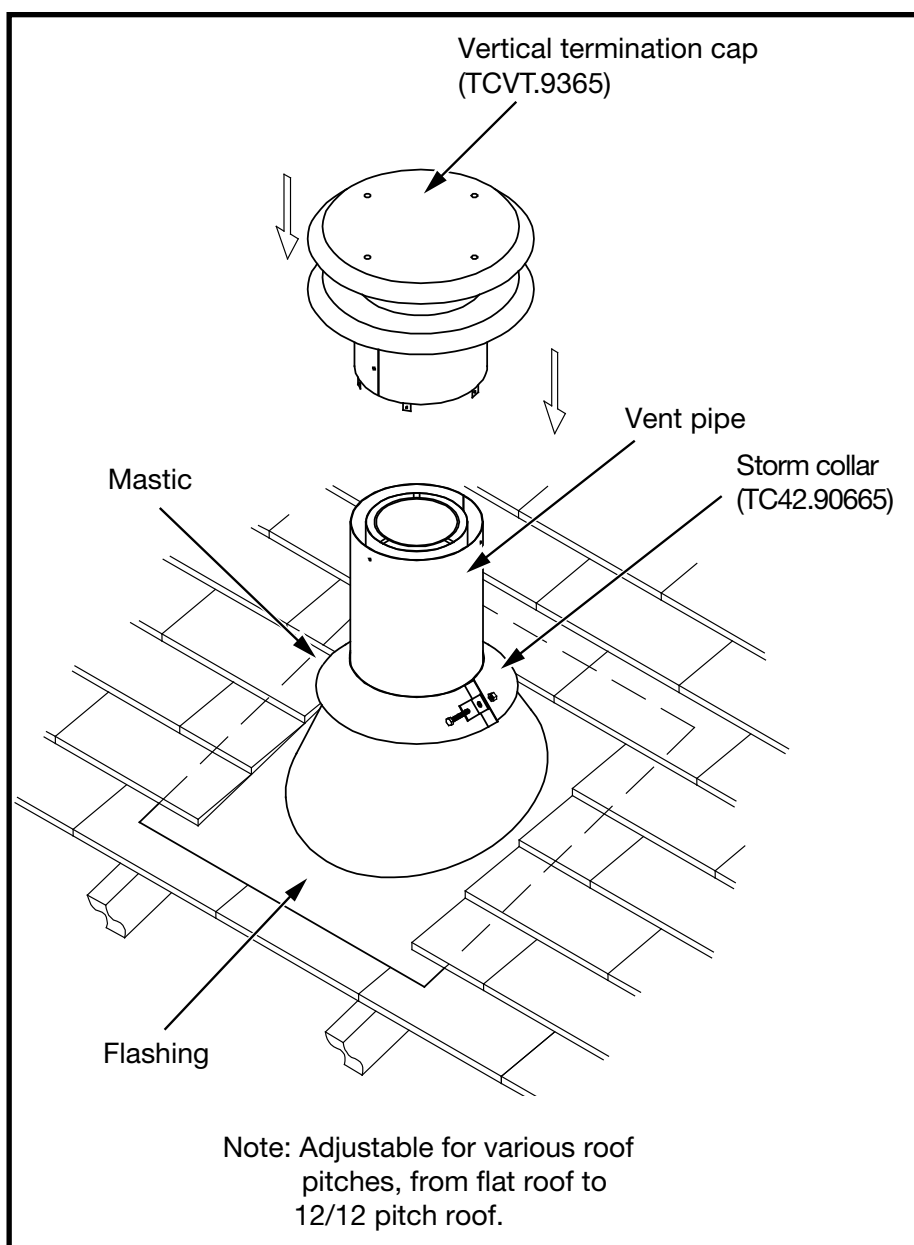

Figure 35: Roof vent terminal.
1. Place the roof flashing over the vent pipe, secure and seal it to the roof using the methods and materials appropriate for the type of roof on the building. Shingle roof example shown in Figure 35.
2. Place the storm collar down over the vent pipe until it is level. Tighten storm collar for a snug fit. Apply a thick horizontal ring of mastic around the pipe at top of the storm collar (Figure 35).
3. Lower the roof vent terminal cap over the vent pipe and secure in place with screws provided (Figure 35). Seal screw heads and joints with caulking to prevent any moisture entering the venting system.